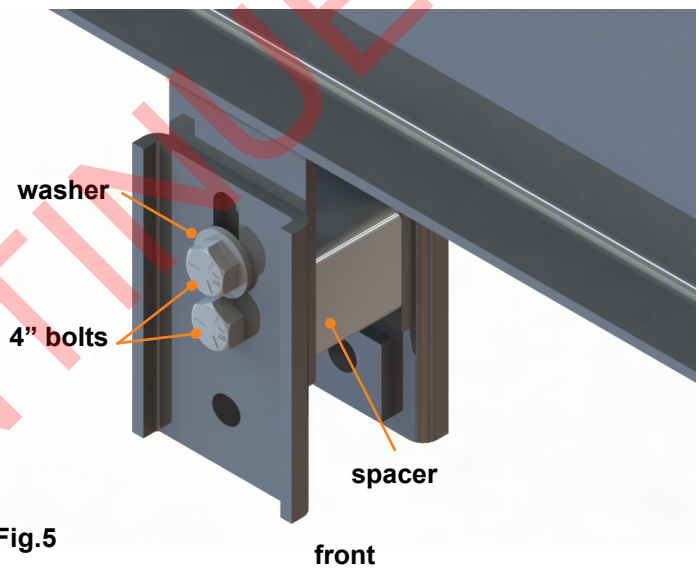
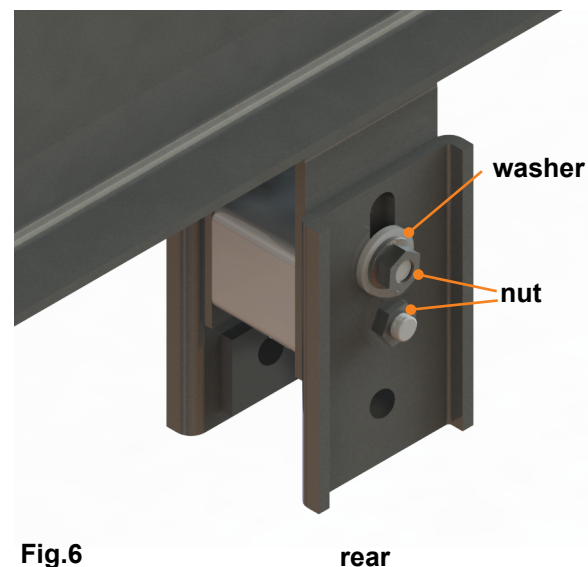

Fig.5
Fig.6
3. Insert a 9/16" x 4" bolt through the plates, the spacer and the hanger (Fig.5). Install a nut on the back side.
4. Insert a 9/16" x 4" bolt and a washer through the upper slot, the hanger and the spacer. Install a washer and a nut on the back side of the hanger and plate assembly (Fig.5 and Fig.6).